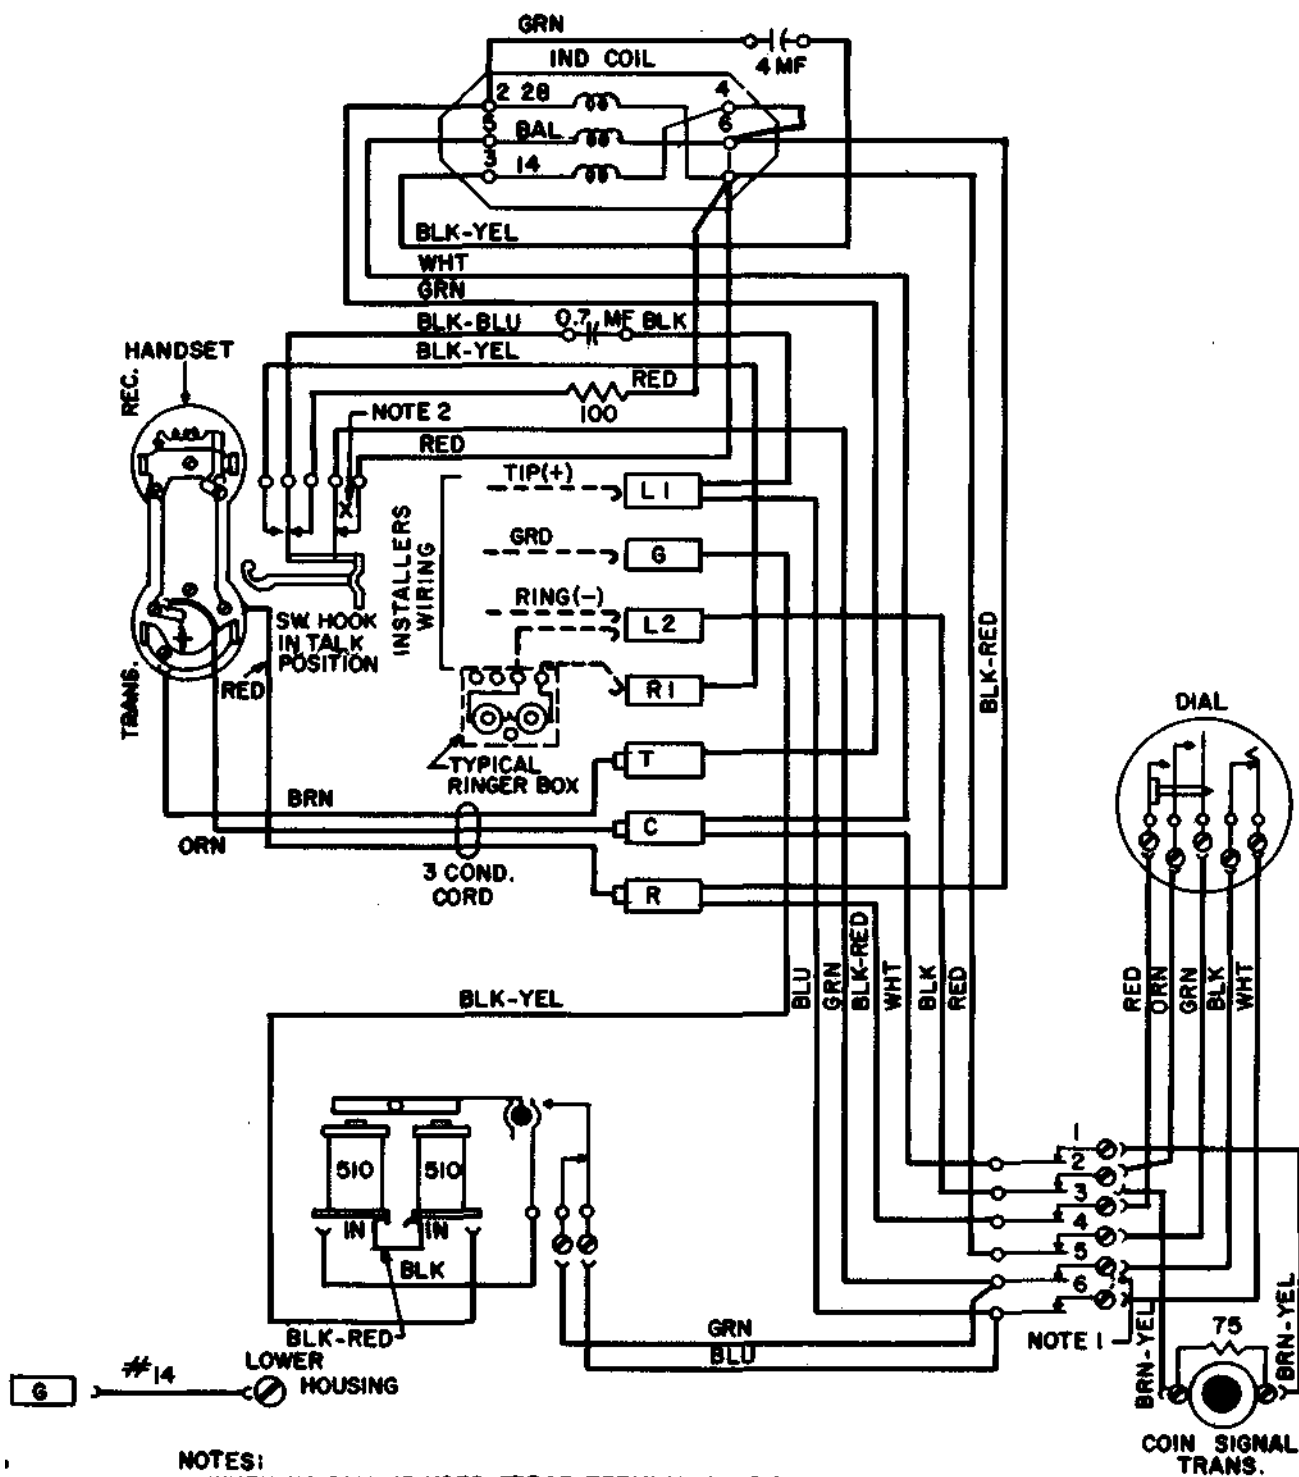

Figure 3. Type 62 Prepay Paystation Wiring Diagram
- (7) Mount the backboard on the wall using anchor screws.
- (8) Unlock upper housing of paystation and lift housing off.
- (9) Mount lower housing and backplate onto backboard with 1/4-20 flathead machine screws through the threaded insert of holes A.
- (10) Insure that the loop or end of inside wire comes through slot in backplate by terminal strip without pinching.
- (11) Remove cover from ringer box.
- (12) Mount ringer box on the bottom part of the backboard using common wood screws.
- (13) Insure that the inside wire is not pinched and has free access to the ringer box.
- (14) Connect ringer and lower housing as shown in the appropriate wiring diagram (Figs. 3 through 16).